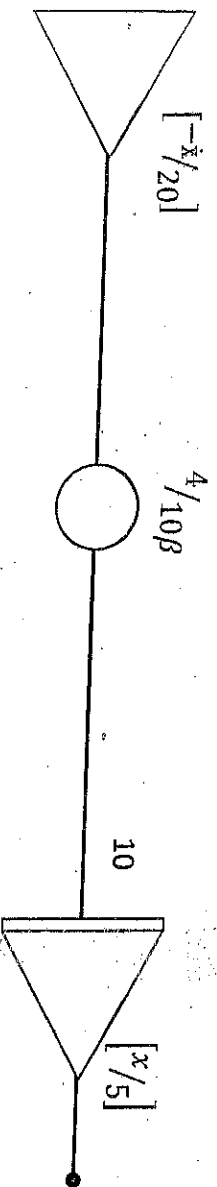

**Fig. 7.3(b): Scaled diagram of fig. 7.3(a) with gain of "1".**
Note the "product" of the pot-setting and gain in equations (9) and (10). Another form of scaled equation for fig. 7.3(a) is shown below;